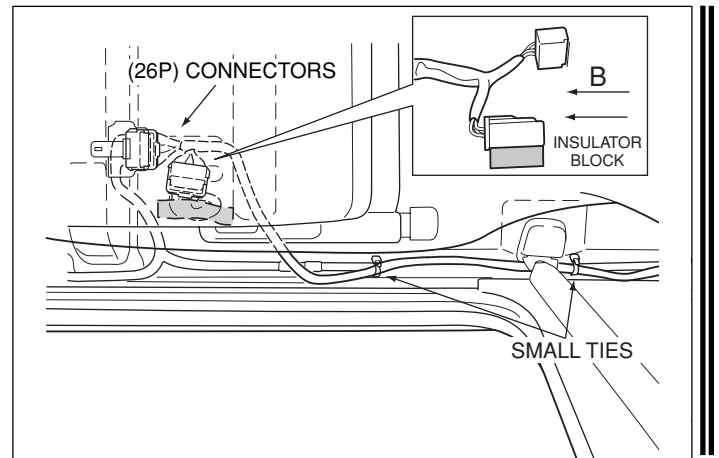

Fig. H6
- ➔ i. Secure the (26P) connector wire harness to the vehicle's wire harness using 2 small plastic ties as shown. (Fig. H6)
- ➔ ii. Secure the vehicle (26P) wire harness using the (150x60mm) packing (foam tape). (Fig. H6)